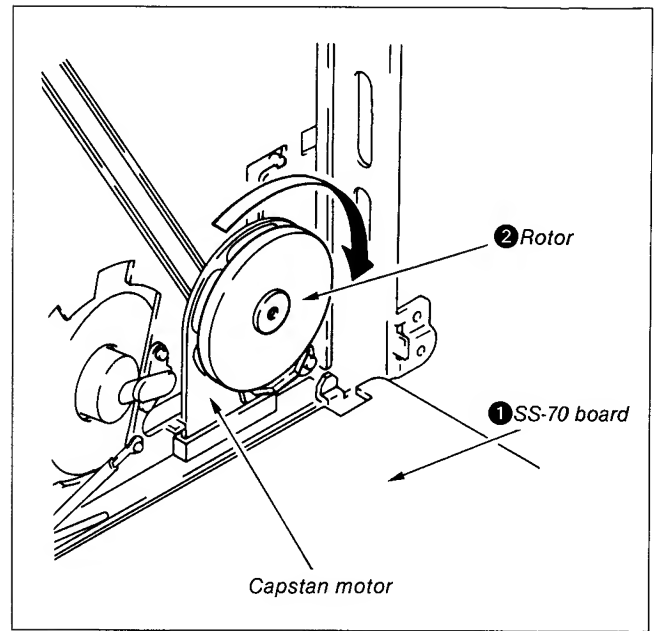

Fig. 8-3
- 4) Open SS-70 board ① and wind up tape into cassette by rotating the rotor ② in the direction of arrow. (See Fig. 8-3)